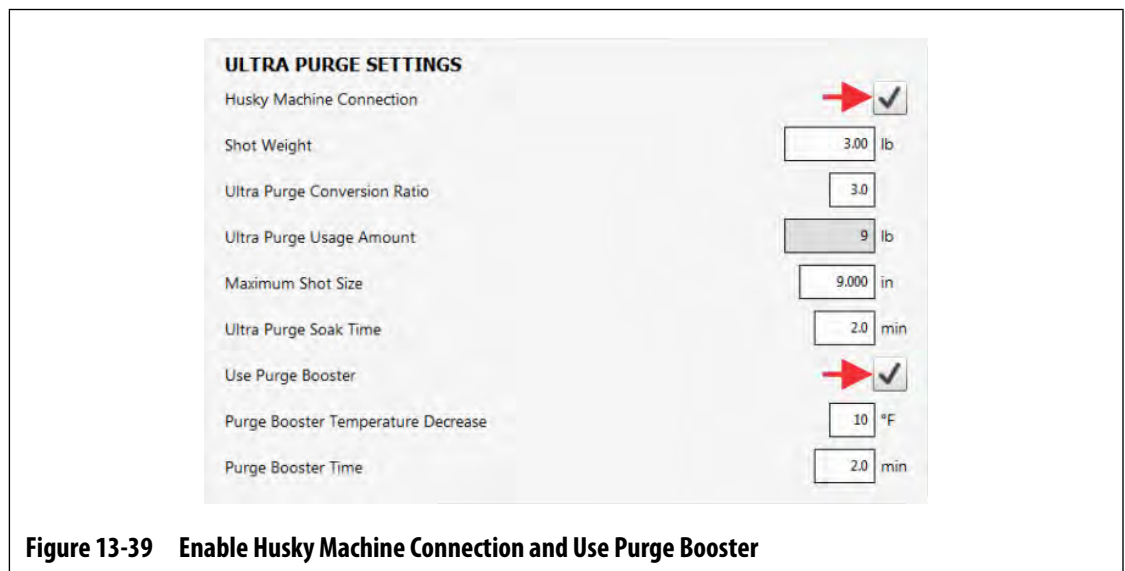

Figure 13-39 Enable Husky Machine Connection and Use Purge Booster
2. Touch the **Husky Machine Connection** and **Use Purge Booster** checkboxes, so the check marks show (refer to Figure 13-39).